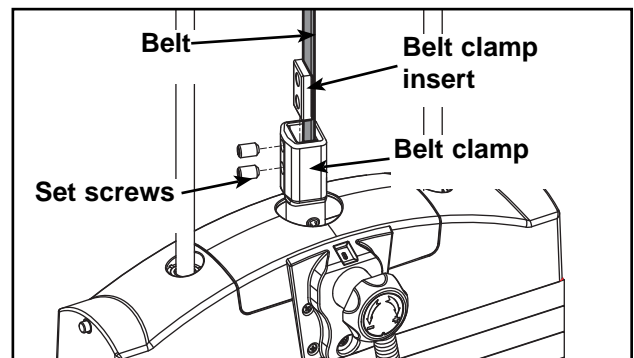

Figure 14
- E. Pull belt tight and secure belt to clamp with the two set screws. **NOTE:** Torque set screws 300-350 in./lbs. See Figure 14.